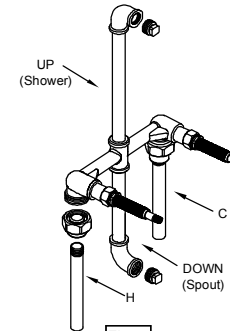

Fig.5
- 4 A. Position valve body correctly in wall (see Fig. 5). UP marking is on up side and DOWN marking on down side.